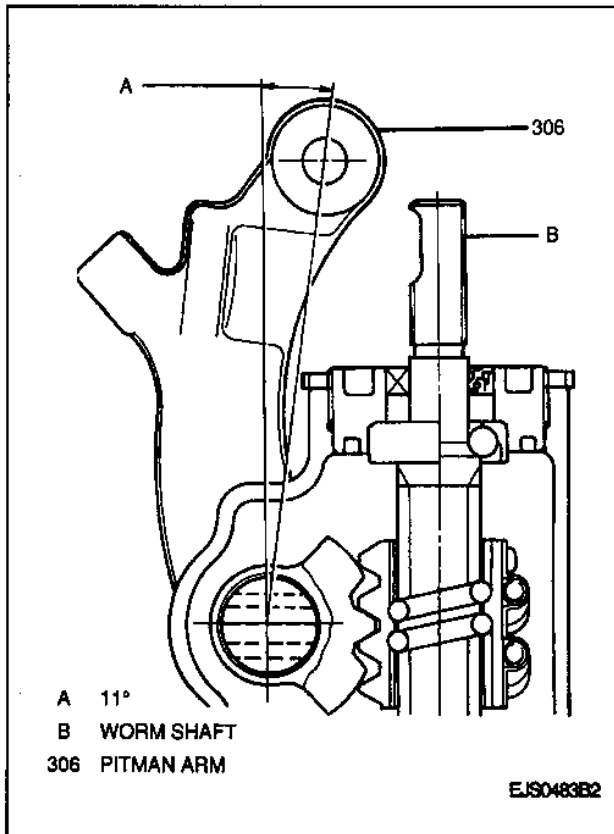

Figure 18—Pitman Arm Position
Figures 18 and 19
- B. Position pitman arm 11 degrees inward from parallel with the worm shaft (Figure 18). (With pitman arm in this position, the vehicle's front wheels are straight.)